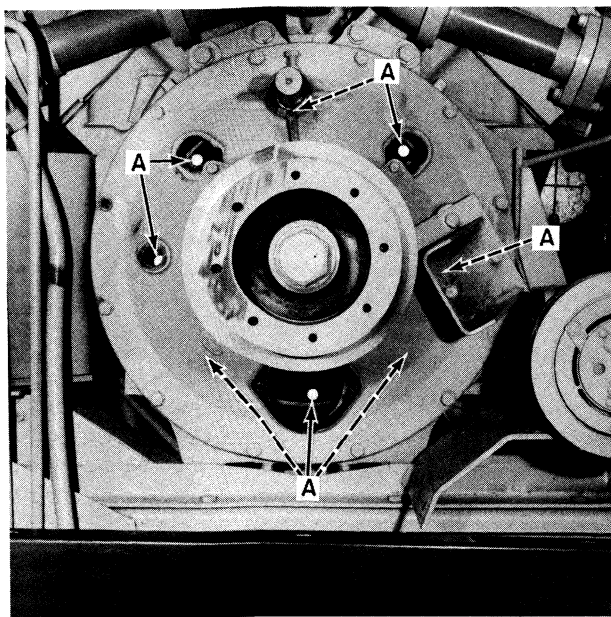

FIGURE 5A-32
3. Install $\frac{3}{8}$ " x $\frac{3}{4}$ " cap screws and external tooth lock washers, A, Figure 5A-32, to attach the flex plate to the flywheel.